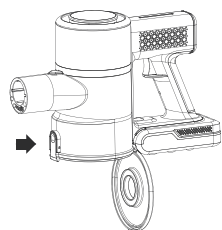

Fig 1.
2. Press release button, the bottom late will drop down automatically, Fig 1.